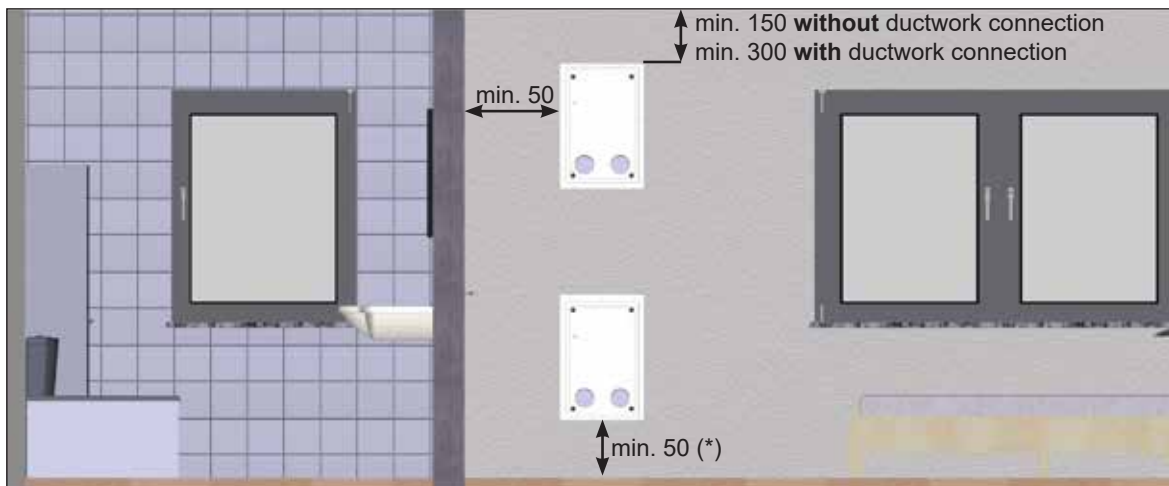
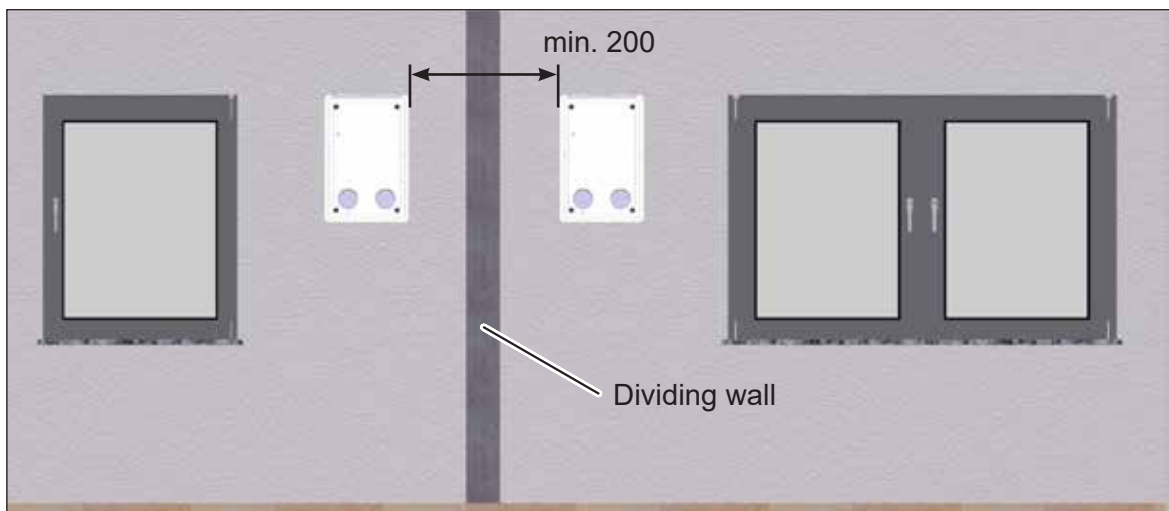

Fig. 4: Minimum distances and options for positioning the M-WRG-II M installation kit, dimensions in millimetres
Fig. 5: Lateral minimum distance between two wall boxes, dimensions in millimetres
- ▶ Maintain the following minimum distances (see Fig. 4 and Fig. 5):
- The distance between the side and bottom edges of the wall box and adjacent surfaces should be at least 50 mm (exception: if a condensate connection is used, see (*) in Fig. 4 on page 10). The ventilation unit will be easier to operate if this minimum distance is maintained. It also allows the air filter to be replaced without obstruction.